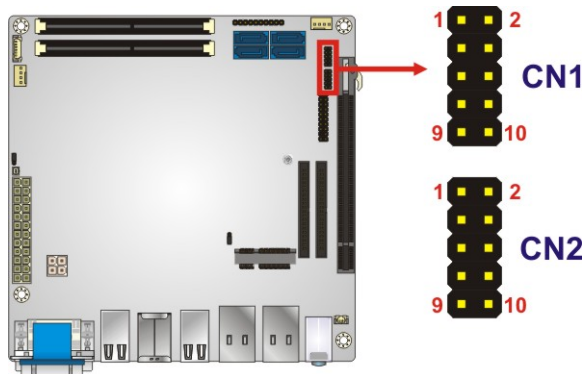

Figure 3-10: RS-232 Serial Port Connector Locations
- CN Location:** See **Figure 3-10**